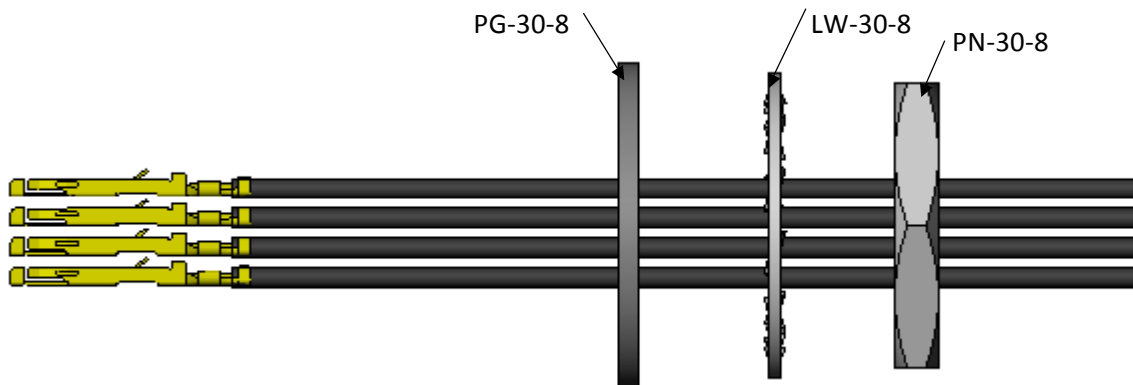

FIG 2
3. Slide PG-30-8, LW-30-8, and PN-30-8 components on the wires as shown in FIG 2.